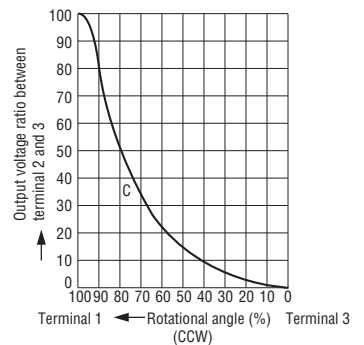

Fig.2
- C characteristic: Change logarithmic as shown in Fig. 2, C